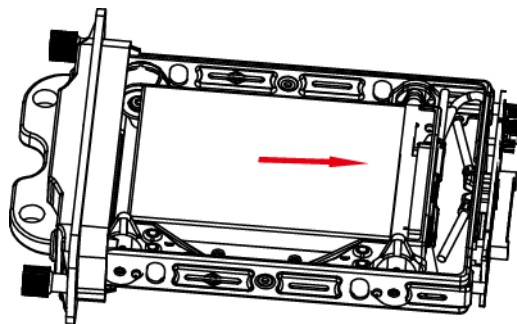

Figure 2-4 Push HDD
Step 5 Push the HDD along the direction shown in Figure 2-4 to connect HDD with socket of dummy HDD.